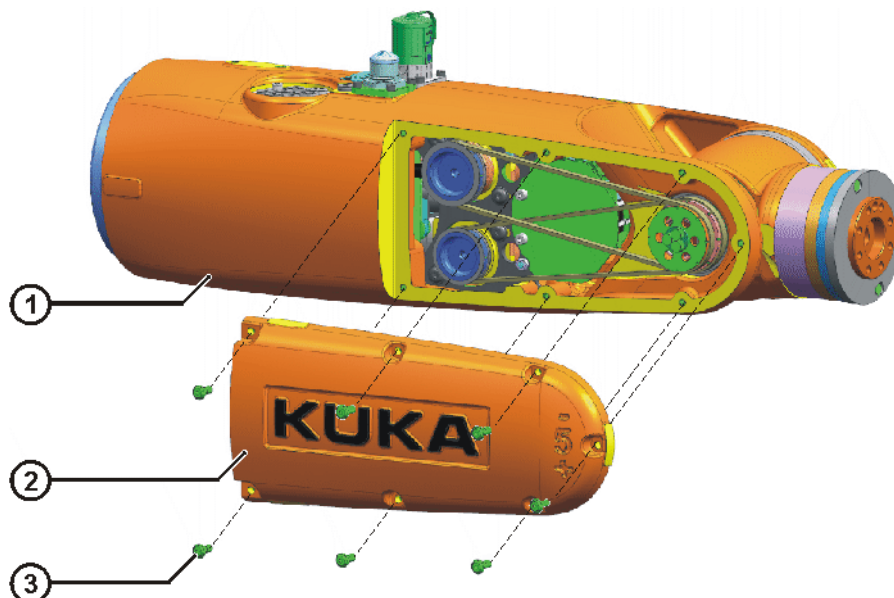

Fig. 10-1: Removing the cover from the in-line wrist – example
1. Remove 7 M3x10-10.9 fillister head screws from the cover and take off the cover (>>> Fig. 10-1).